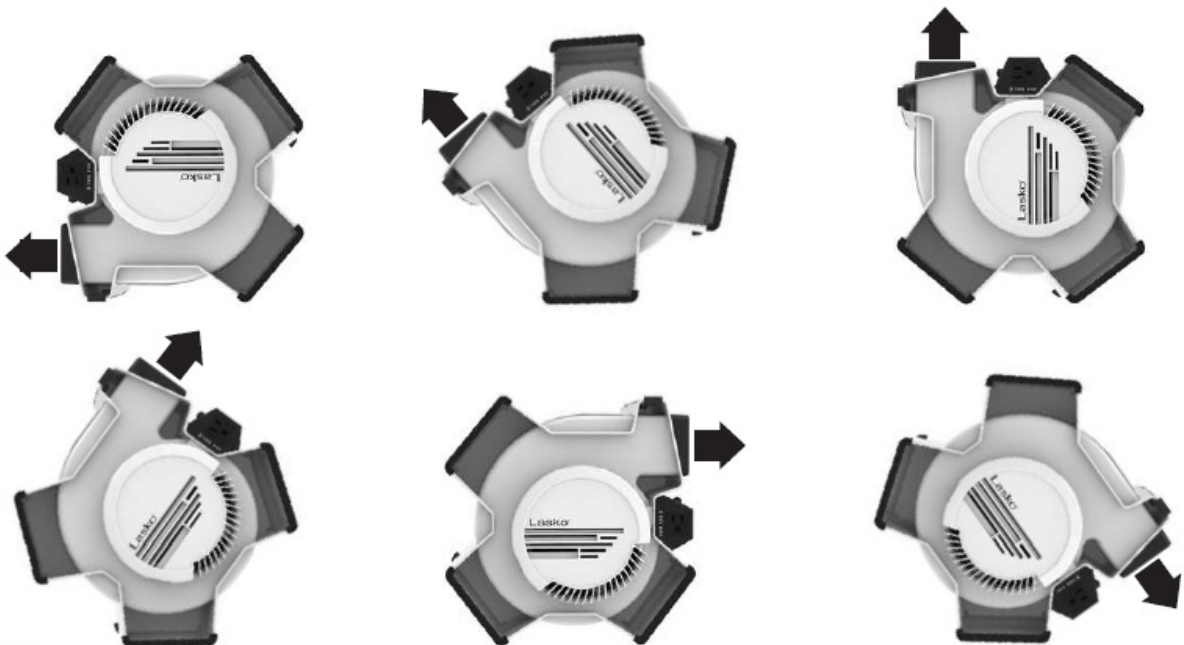

Figure 2
5. To adjust angle, rotate the Fan body forward or backward to the desired position. (Figure 2)